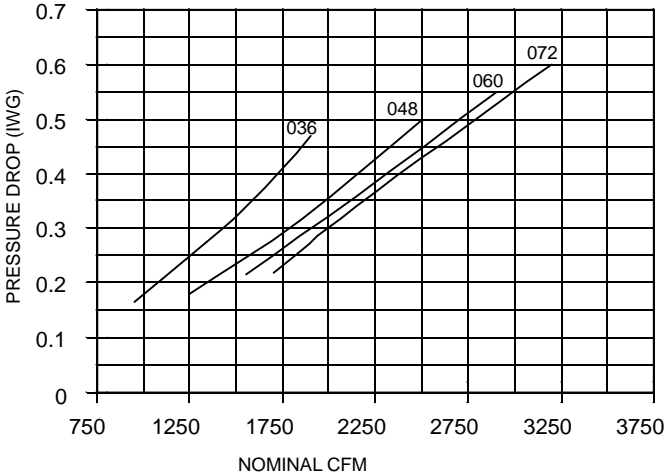

FIG. 15 PRESSURE DROP vs SUPPLY AIR CFM
- Knowing the pressure drop across a dry coil, the actual CFM through the unit can be determined from the curve in Figure 15.